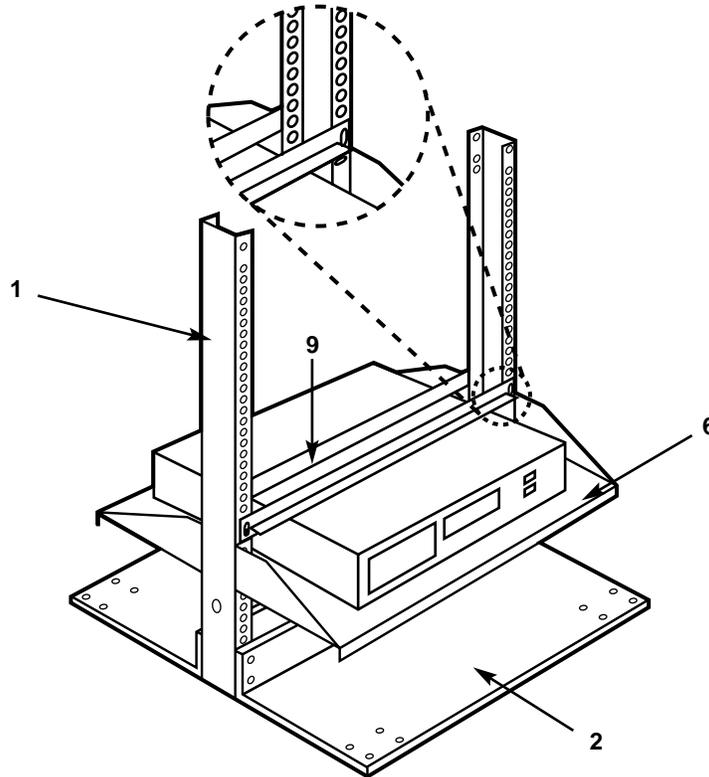

Figure 3-5. Attaching tie-down brackets to a Desktop Serv Rack.
2. Position the tie-down bracket above the CPU with the padded side facing the CPU, as shown in Figure 3-5.